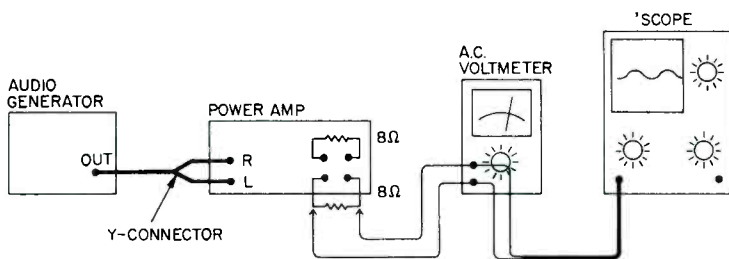

Fig. 3—Equipment setup for measuring maximum power output and power bandwidth.
1. Turn on all equipment (Fig. 3) and allow a few minutes warmup.